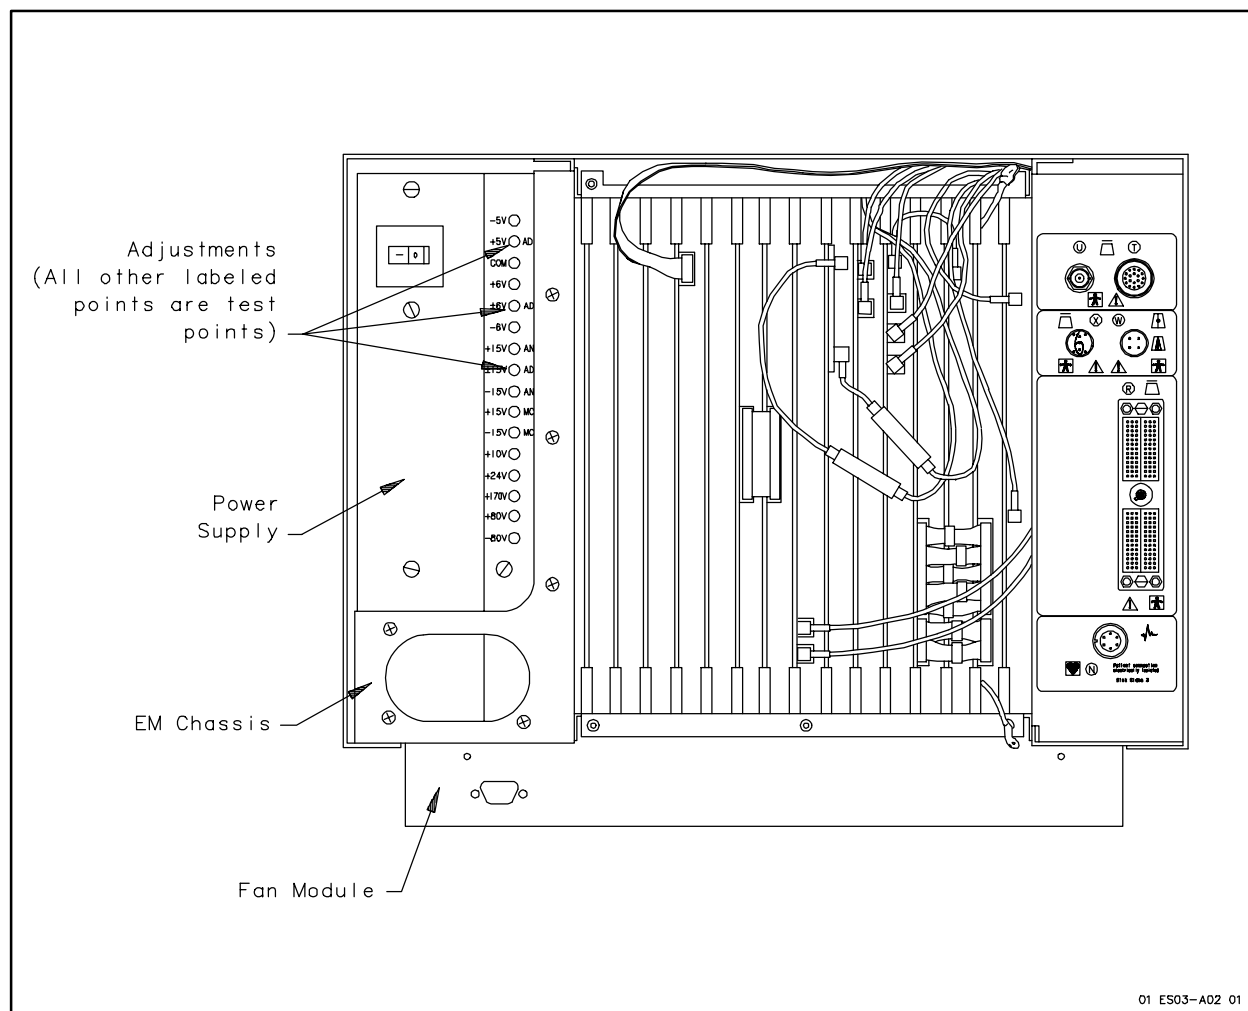

Figure 3-2. Power Supply Adjustment
3-3 Power Supply (Figure 3-2)
3. Connect DVM common lead to COM test jack on power supply. Connect other lead to jack corresponding to voltage under test (**Figure 3-2**).